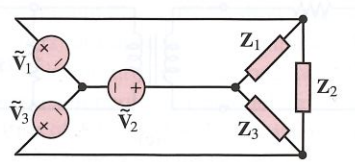

Figure P7.67
7.67 The circuit of Figure P7.67 has a balanced three-phase wye source but an unbalanced delta load. Determine the current through each impedance.